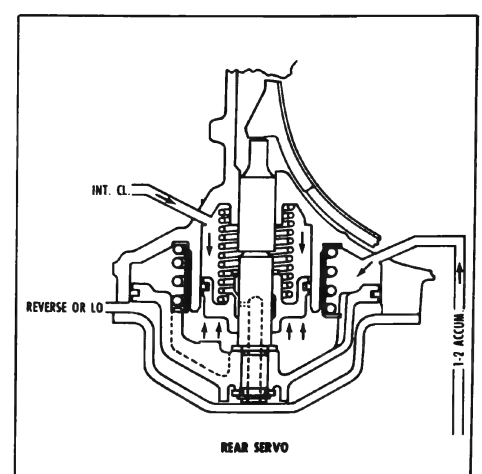

Figure 5-220
c. The accumulator piston in conjunction with 1-2 accumulator oil provides the accumulator function for intermediate clutch apply. During the stroke of the accumulator piston a quantity of intermediate clutch oil is allowed to bleed to exhaust through the orifice in the accumulator to functionally appear as though it could absorb a larger volume. See Figure 5-220.